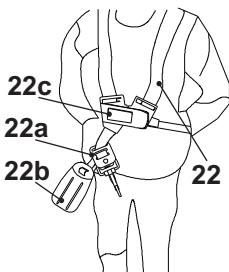

Fig. 13
1. Adjust the position of the suspension sleeve (12) if necessary. Make sure it is well fixed on the upper pole (9) before operation.
2. Place the harness (22) so that
- the belts must be tensioned in a way that the load is distributed evenly on the shoulders (Figs. 13, 14).